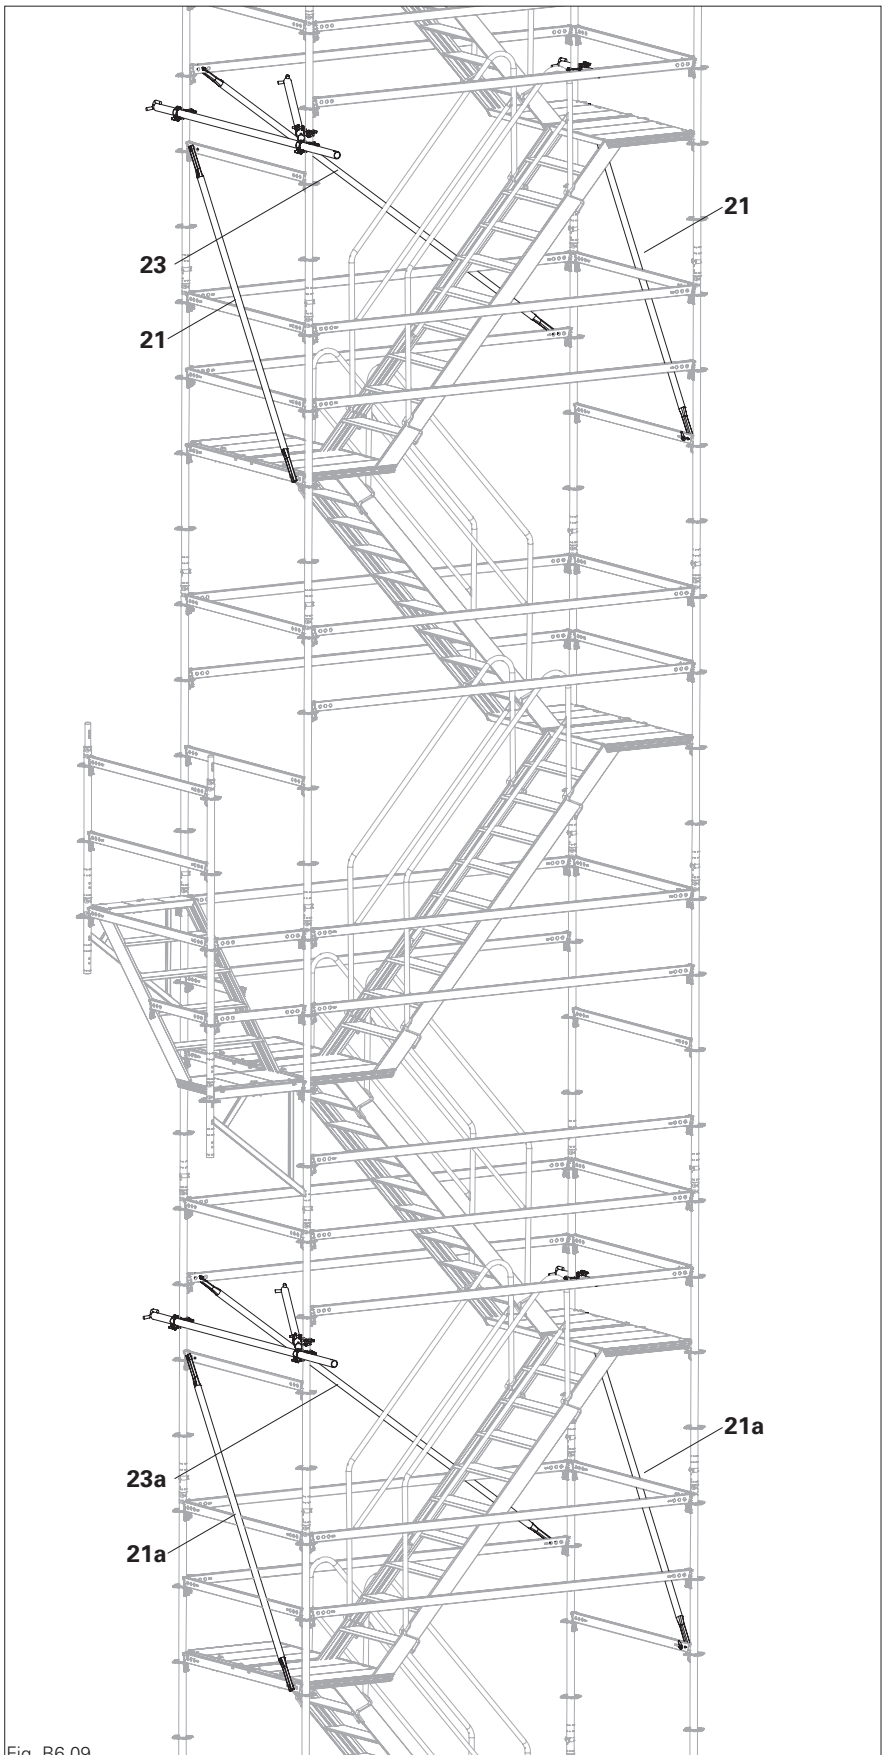

Fig. B6.09
3. Directly below all anchoring points positioned below: fit 2 x ledger braces (**21a**) and 1 x ledger brace (**23a**) on the inner side. (Fig. B6.09)